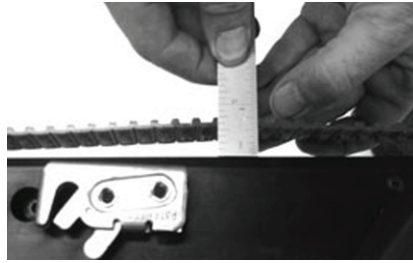

Figure 12 – Proper belt tension
9. Use two 7/16" wrenches to apply the desired tension to each belt and tighten securely (Figure 12).